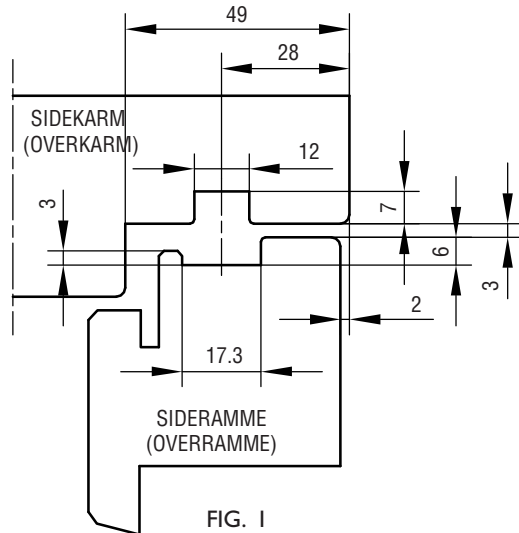

FIG. 1
- 21167: SIDESTYKKERNE I KARM OG RAMME FORSYNES MED GENNEMGÅENDE NOTER, SE FIG. 1 + 2.
21178 & 88: SIDE- OG ØVERSTE KARM OG RAMME FORSYNES MED GENNEMGÅENDE NOTER, SE FIG. 1 + 2.
21167: HVIS DEN ØVERSTE RAMME ER FORSYNET MED SPOR, FIG. 1, ANBRINGES FØRST DE MEDSENDTE AFSTANDSSTYKKER YDERST I HVER SIDE AF OVERRAMMENS NOTER.